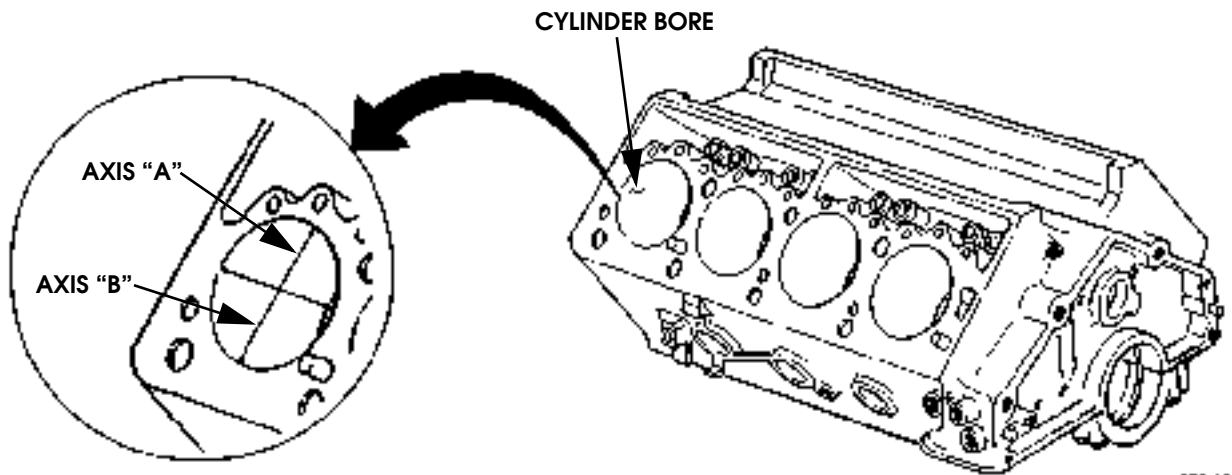

Figure 2-107: Cylinder Bore Measuring Points
- Work the gauge slowly up and down the cylinder from top to bottom. Take measurements at cylinder axis points "A" and "B" (Figure 2-107). Note that most wear occurs in the top 2 1/2 in. (63.5 mm) of the cylinder.